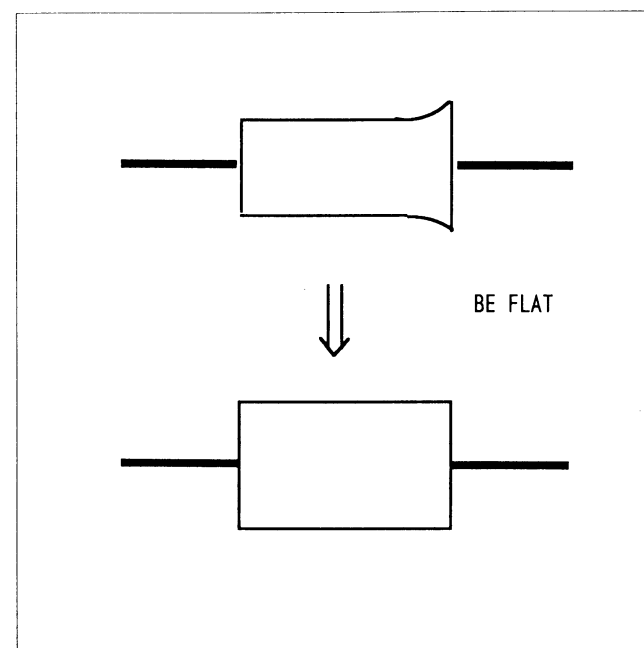

Fig. 1-10
- 5) Make the waveform flat by turning No. 8 Guide. (Fig. 1-10)